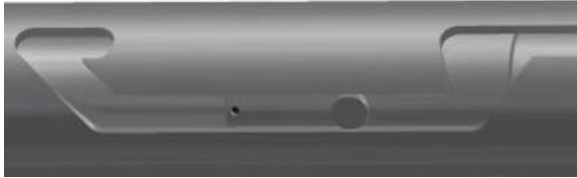

Fig. 5
L-1.17) Rotate J-body (20) as needed to position J-pin of J-pin bottom sub (23) along J-slot to access threaded holes (Fig. 5). Screw set screw (28) into J-pin bottom sub (23).